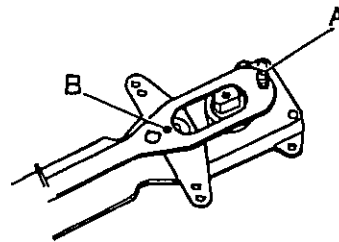

Fig. 4
- Reposition screw and roller from A to B (fig. 4).